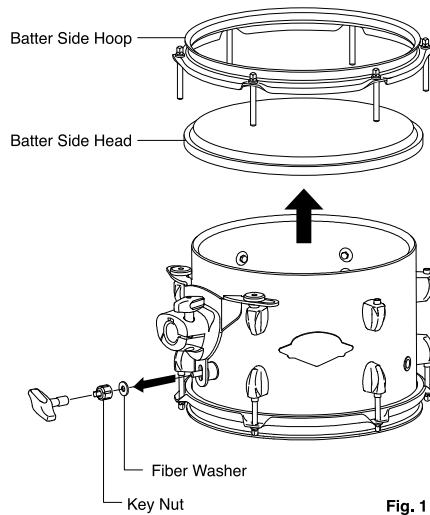

Fig. 1
1. Remove the Batter Side Hoop and Head from the drum. Using a Drum Key, remove the Key Nut and Fiber Washer as shown (Fig. 1).